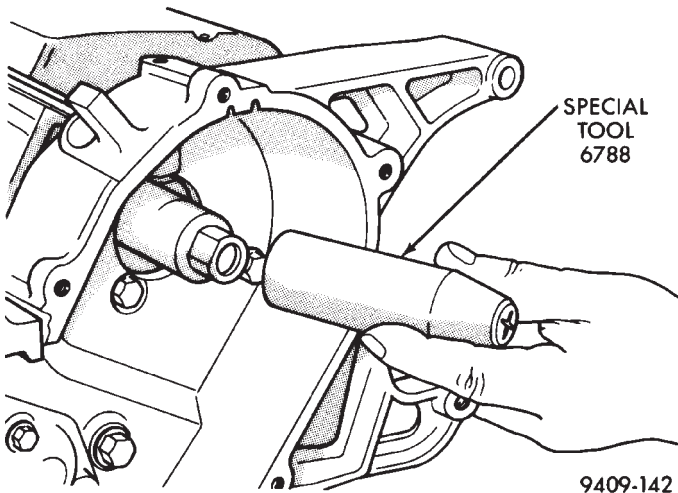
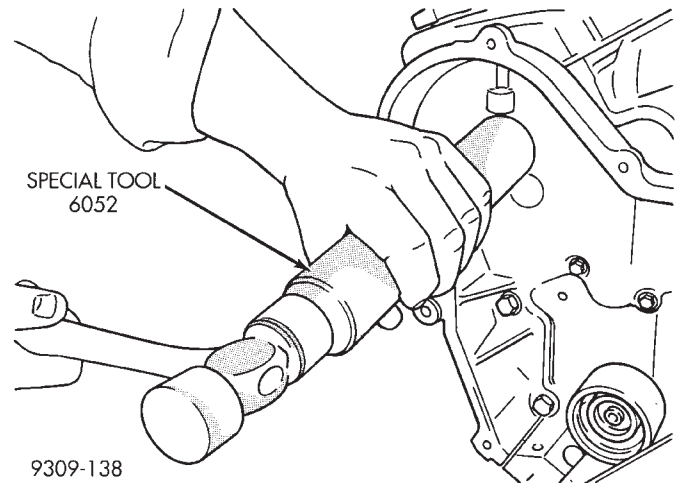

Fig. 76 Camshaft Oil Seal Protector Sleeve
Fig. 77 Camshaft Oil Seal—Installation
(1) Apply light coat of engine oil to the camshaft oil seal lip.
(2) Install the oil seal using Special Tool 6788 Seal Protector Sleeve (Fig. 76) and Seal Installer 6052 (Fig. 77).